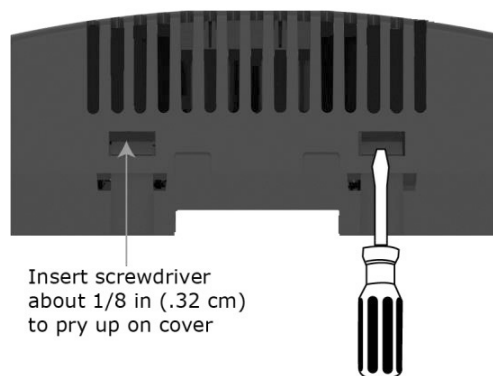

Fig. 57 — Fuse Access
2. On both ends of the TV-RTU, insert a small flathead screwdriver as shown in Fig. 57, and then gently pry up the cover until it is released from the base.